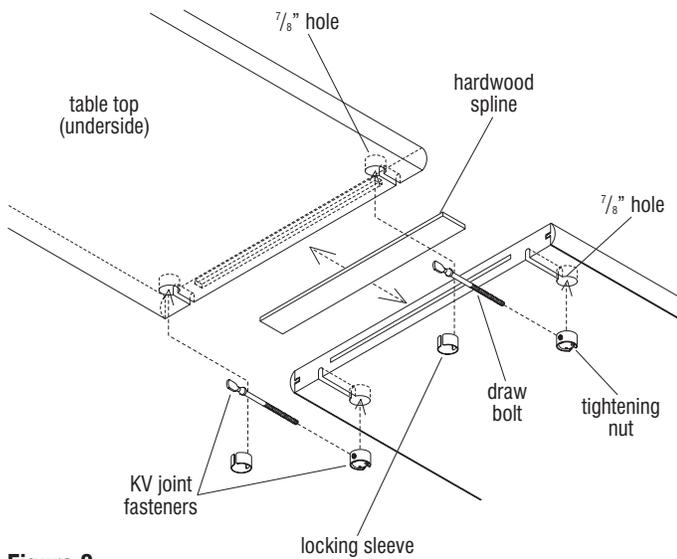

Figure 3
9. Table tops are to be joined together from underneath with two KV joint fasteners per pair of table tops (Figure 3). First join both table tops together, aligning the
hardwood spline (installed in one table top at the factory). Check to make sure the hardwood spline fits snug in both table tops. If it does not, lightly sand down the spline so it does fit. If this is not done, it may be difficult to get a tight fit on the table top seam. The spline joint and table top seam are to be glued using the adhesive supplied with the KV fasteners. Do not use a wood glue for seam gluing as the working time for that adhesive is too short. Thread each draw bolt a few turns into each tightening nut and press each pair up into a  $\frac{7}{8}$ " hole and slot. The flat end of each draw bolt will be visible in the  $\frac{7}{8}$ " holes of the table top being joined. Insert locking sleeves into the  $\frac{7}{8}$ " holes so that the slotted sleeve engages the rounded collar on the bolt (Figure 3). Tighten the nut with a tightening tool or nail set. Check the top side of the joint for alignment. The joint should be smooth and level, with no gaps. Adjust as necessary to achieve a "seamless" look. Once the seam is glued and KV fasteners are installed, use C-clamps to clamp both ends of the seam.